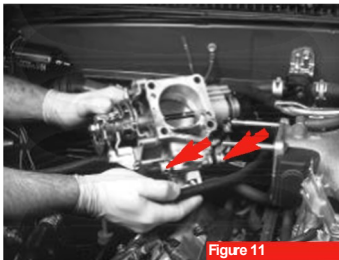

Figure 11
14. Remove vacuum lines from the throttle body but don't remove the two coolant hoses (figure 11).